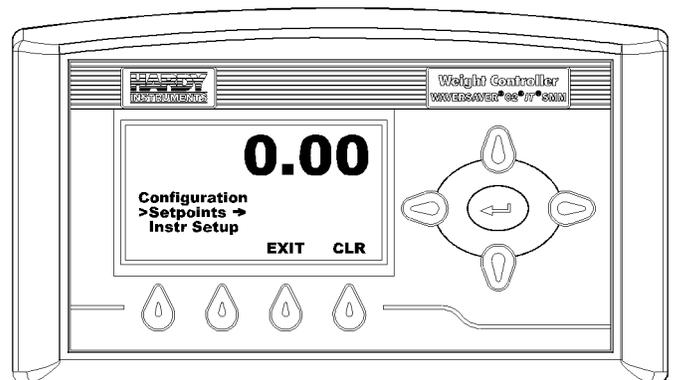

FIG. 10 CONFIGURATION DISPLAY
- Step 3. Press the Enter button to go to the Configuration menus. (See Fig. 10)